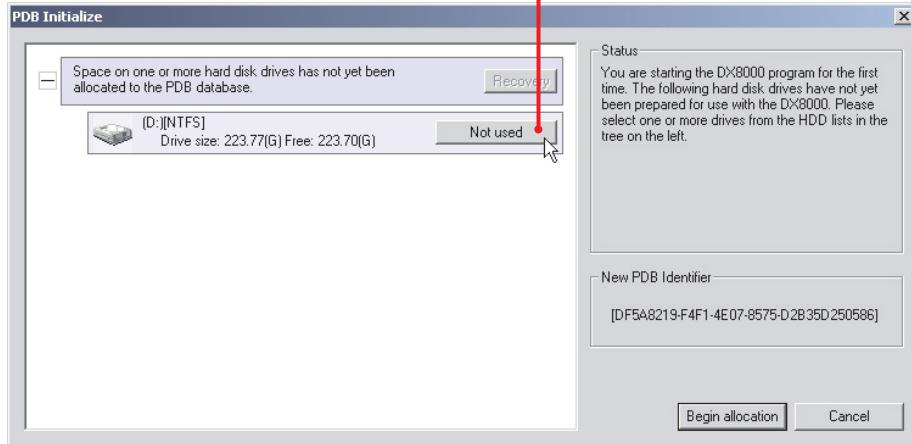

Figure 30. Opening Drive Option Menu
- b. Click the Not Used button. Refer to Figure 30. A drop-down menu appears.